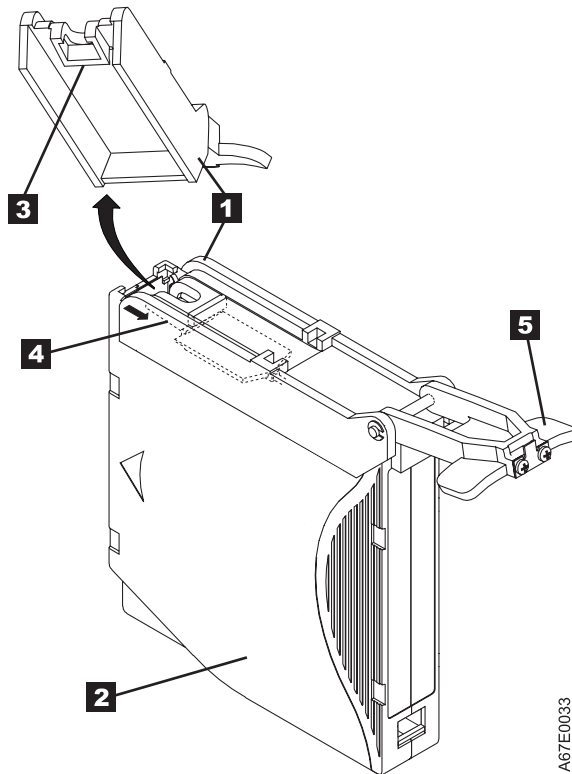

Figure 9-12. Attaching the leader pin attach tool to the cartridge. To hold the cartridge door open, hook the tool into the door and pull the tool back.
1. Attach the leader pin attach tool (1) in Figure 9-12 on page 9-14) to the cartridge (2) in Figure 9-12 on page 9-14) so that the tool's hook (3) in Figure 9-12 on page 9-14) latches into the cartridge's door (4). Pull the tool back to hold the door open, then slide the tool onto the cartridge. Open the tool's pivot arm (5).